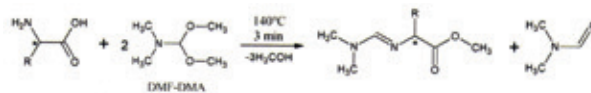

Figure 5. Derivatization of α -amino acids with DMF-DMA (26).
Specifically for chirality experiments, COSAC was equipped with three fused silica columns coated with CSPs (20, 21, 23), see Figure 4. Chirasil-L-Val was chosen for chiral α -amino acids and Chirasil- β -Dex was selected for chiral hydrocarbons. Non-bonded 2,6-O-dipentyl-3-O-trifluoroacetyl- γ -cyclodextrin (CD-G-TA) (24) was selected for unspecified compounds. In contrast to Chirasil-L-Val, the cyclodextrin selectors are not prone to radio-racemization (25). Unfortunately, native amino acids are involatile and have to be derivatized prior to GC analysis. The traditional two-step protocol to form N-perfluoroacyl-O-alkyl esters appeared unsuitable for space experiments. Hence, the one step reaction with N,N-dimethylformamide/O,O-dimethylacetal (DMF-DMA) (see Figure 5) was developed (26). Notably, only valine, isoleucine, aspartic acid and phenylalanine can be resolved using this method. The Chirasil- β -Dex column was operated shortly after Philae's touchdown on Chury (Uwe Meierhenrich told me), but no data have been disclosed by ESA. Subsequent measurements will only be possible when the batteries of Philae – the lander, which is currently lying dormant – are recharged at an elevated solar altitude. No news on this topic is currently forthcoming...